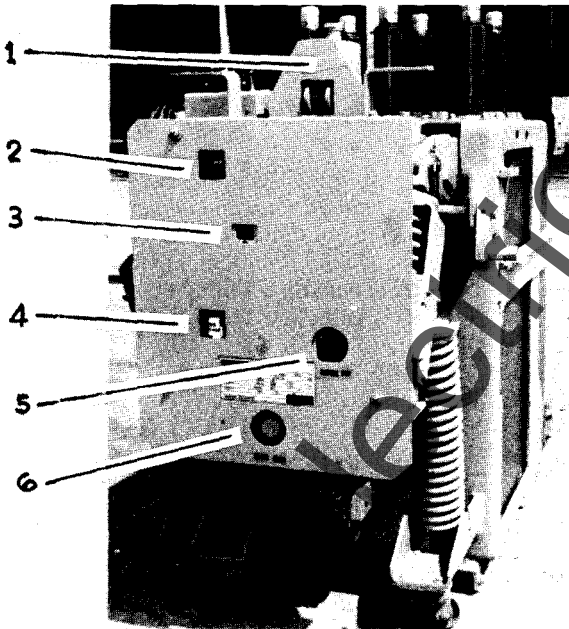
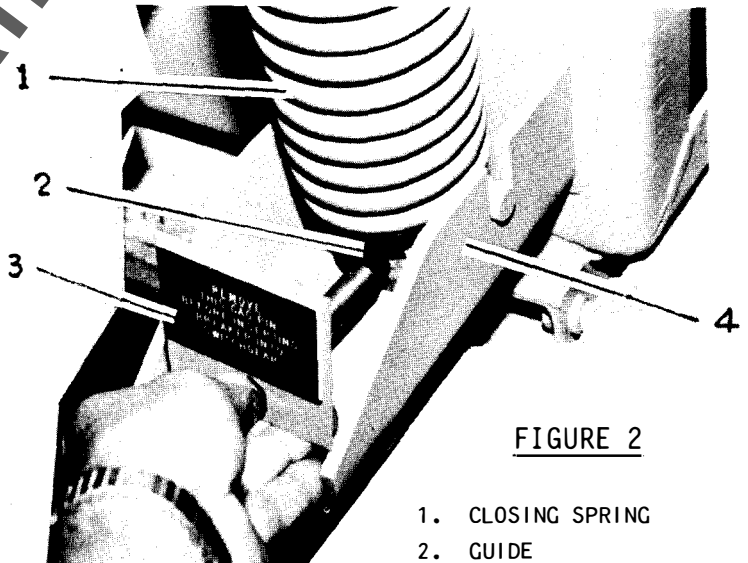
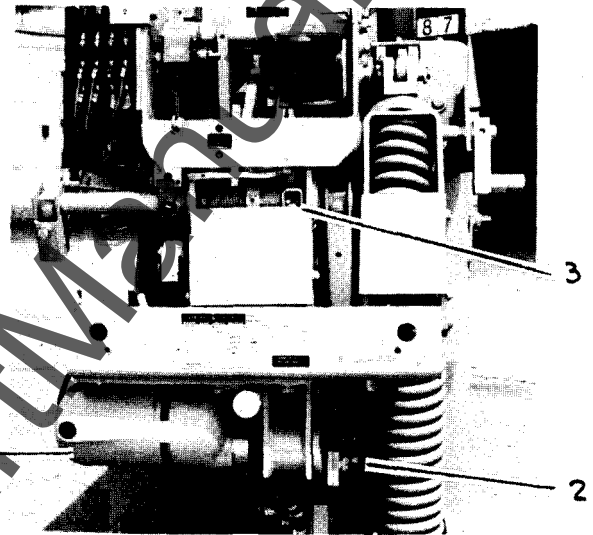

FIGURE 1 FRONT VIEW
FIGURE 2
FIGURE 7. LOWER MECHANISM
Remove the top mechanism cover and locate these two securing wires as indicated by the yellow shipping tags. Cut the wires using wire cutting pliers or a similar tool and trip open the breaker by pushing the manual trip button (5) Figure 1. Keep your hands clear of the moving parts of the operating mechanism while cutting the wire and opening the breaker. To assure all springs are discharged push the close button and then the trip button. At this time a complete visual inspection of the interrupters and mechanism should be made to ascertain their condition.
1. Charge the breaker closing spring using a 5/8" ratchet wrench to turn the manual charging shaft (2) Figure 7. Turning the shaft ccw will advance the ratchet wheel and compress the spring. When the spring has reached the fully charged position, the yellow indicator (4), Figure 1 will read "charged" and the ratchet handle will rotate freely.
2. Insert the spring blocking device (3) Figure 2 in the closing spring guide (2). Manually discharge the spring against the device by pushing the manual close button (6) Figure 1. The spring is now blocked and slow breaker closing can now be accomplished by again turning the manual charging shaft with the 5/8" ratchet wrench.
ing of the breaker in the unit while in a closed position. It also prevents a closing operation unless the breaker is in the fully raised position. To insure that this interlock will function during manual, as well as during electrical operation of the equipment, both mechanical and electrical blocking is provided. If for any reason the closing springs should be discharged against the positive interlock the mechanism will be jammed and be inoperable. The mechanism can be released and returned to the reset position by pushing in on the trip lever (5) Figure 1. It may require more than normal force to release the interlock.
A plunger interlock, (1) Figure 1 can be provided to operate a stationary auxiliary switch and/or a rod interlock mounted in the metal-clad unit.
Refer to Figure 9. The trip armature (10) should have 1/16" to 3/16" travel plus 1/32" minimum overtravel before the trip latch (18) starts to move. This can be adjusted by moving the trip coil support (8) and/or by adjusting the trip armature screw (3) Figure 7. A locking screw located behind the trip armature screw must first be loosened. Retighten locking screw after making adjustment.